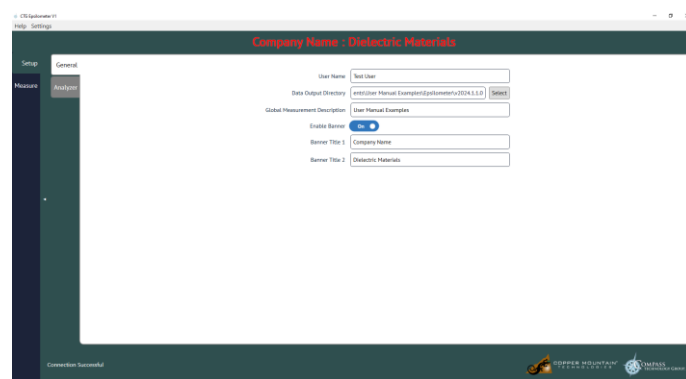

Figure 4. Initial "Setup" Screen
2. Open CTG.EpsilonMeter software by double-clicking the CTG.EpsilonMeter icon  on your desktop. An initial "Setup" screen will appear containing two ribbon tabs: "General" and "Analyzer" (Figure 4).